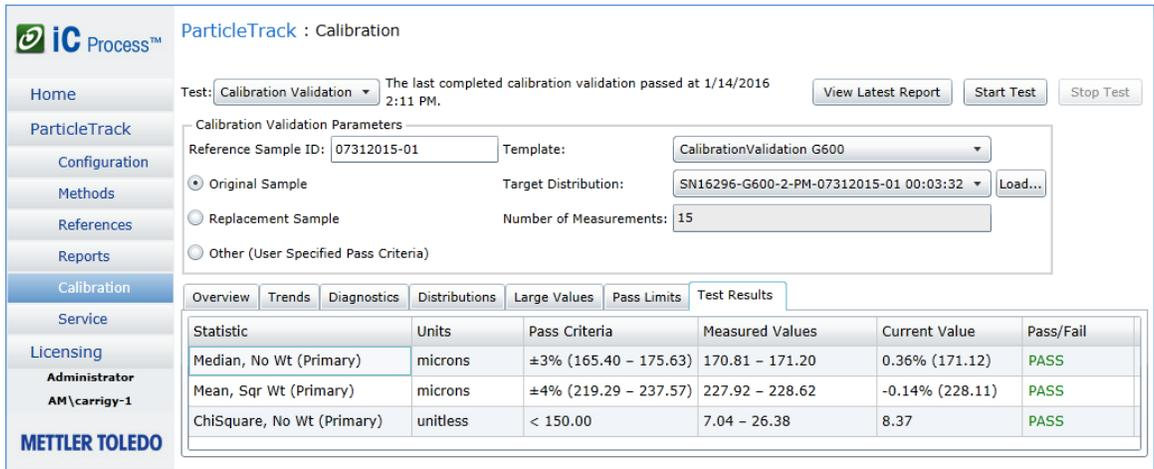

Figure 6—Test Results (Pass)
2. Observe the Pass/Fail results (Figure 6).